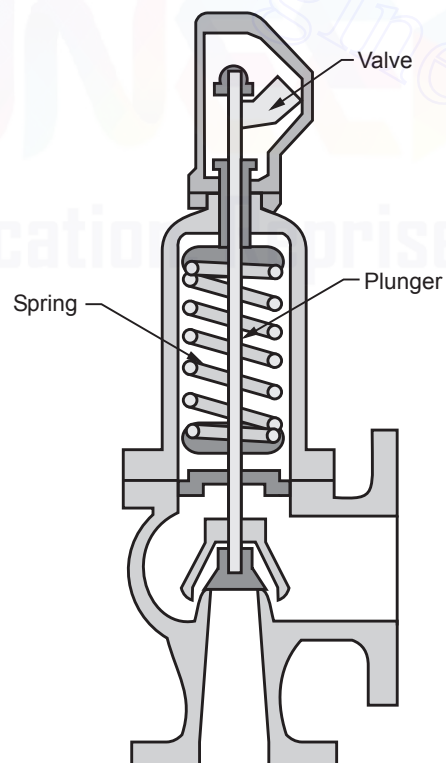

Fig. 2.10 : Safety value
- Fig. 2.10 shows safety valve.